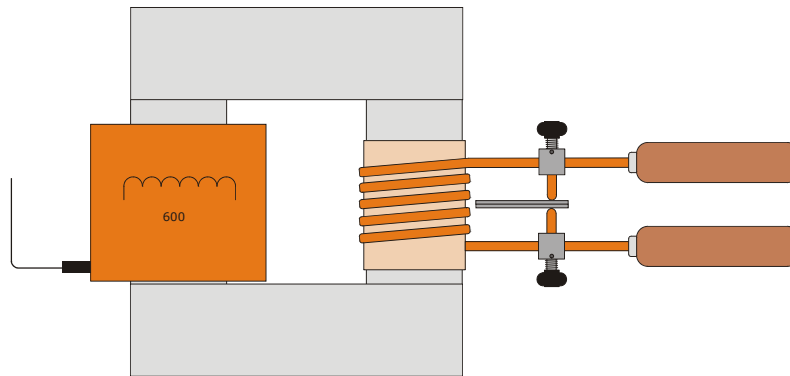

Fig. 1 Spot welding
- Set up the high-current transformer as shown in Fig. 1 and place it on a heat-resistant surface.